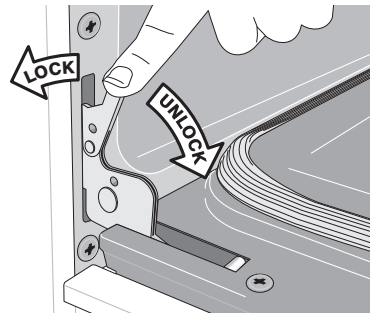

Figure 18: Hinge lock/unlock positions
2. Pull the door hinge locks on both left and right door hinges down from the oven frame completely towards the oven door (Figure 18). A tool such as a small flat-blade screwdriver may be required.
4. Push the door hinge locks up towards and into the oven frame on both left and right oven door hinges (Figure 18) to the locked position; then, close the oven door.